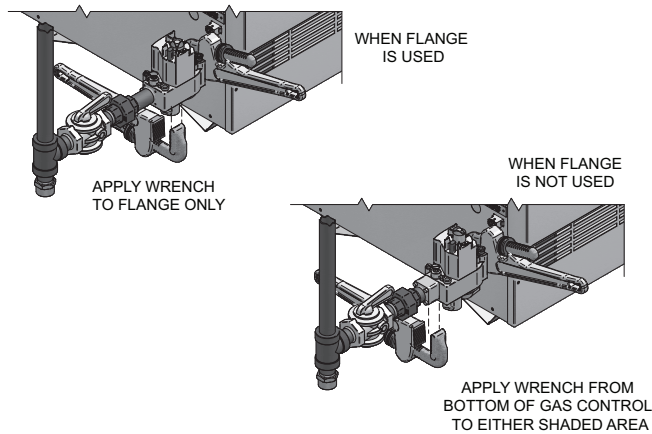

Figure 3-2_Wrench
- Connect pipe to gas valve or manifold inlet. Use wrench to square ends of the gas valve (FIG. 3-2).